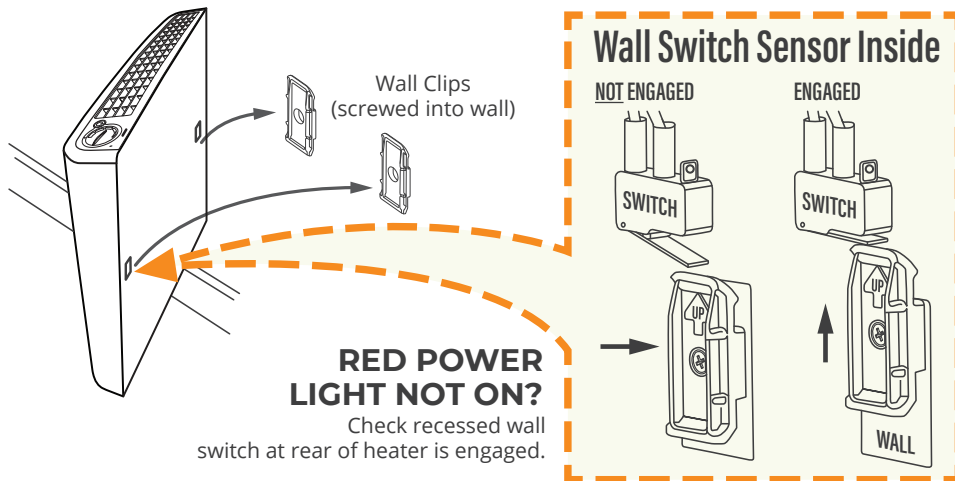
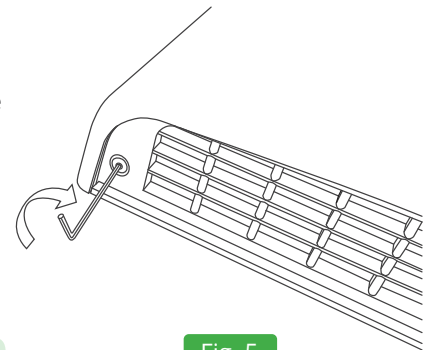

Fig. 4
Fig. 5
4 Note: make sure you pre-install the locking bar screw before you mount the heater. (See Fig. 5 below). Install heater on mounting clips (align right side first) and make sure to press down firmly on the heater to ensure a secure fit. You will hear it “snap” into place. (Figure 4 on the left)
- 1 Installing the Locking Bar Screw (Fig. 5) BEFORE YOU MOUNT THE HEATER TO THE WALL.** Take the locking bar screw out of the mounting kit and while the heater is laying flat, use the Hex/Allen key provided to pre-install the screw in the hole at the left hand side of the bottom vent (Fig 5). Twist the locking screw in about 3/8 of an inch but make sure you do not screw it in too far as it will obstruct the mounting holes at the back of the heater and prevent secure mounting.
- 3 Tighten Locking Screw (Fig 5)** Follow the rest of the mounting instructions to ensure the heater is properly seated on the mounting clips and then tighten the locking screw to fix the heater to the wall. **DO NOT USE A POWER TOOL! DO NOT OVERTIGHTEN,** just turn the screw until the locking bar presses gently up against the left hand mounting clip inside the heater.